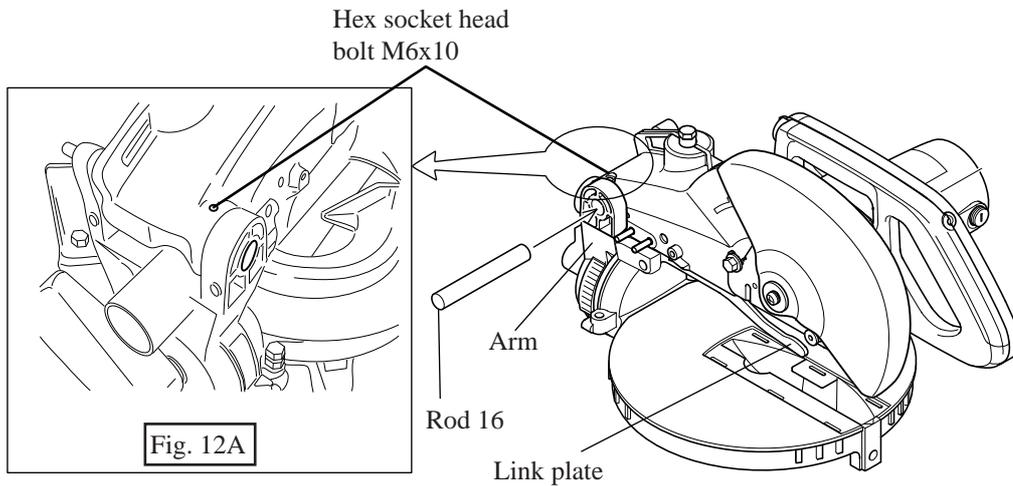

Fig. 12
(4) Insert rod 16 which works as an axis for swinging motor unit. See Fig. 12. And fasten rod 16 with hex socket head bolt M6x10. See Fig. 12A.